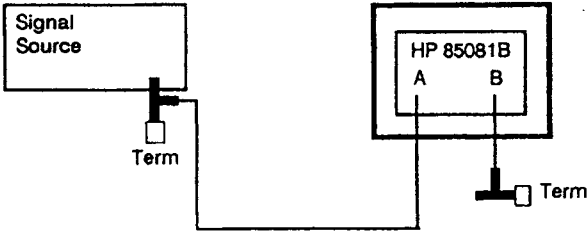

Figure 4-2. Test Setup for Reference Channel Lock Level and Channel B Noise Floor
- 1. Configure the test equipment as in Figure 4-2.